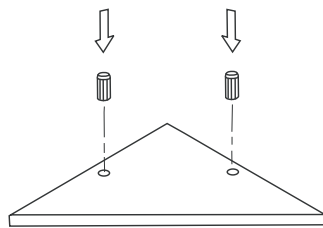
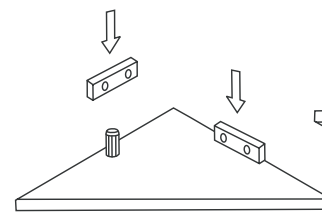

Figure 1
Figure 2
Step 2: Insert longer pegs into shelf, as shown in **Figure 1**. Slide wooden brackets onto the wood pegs, as shown in **Figure 2**.